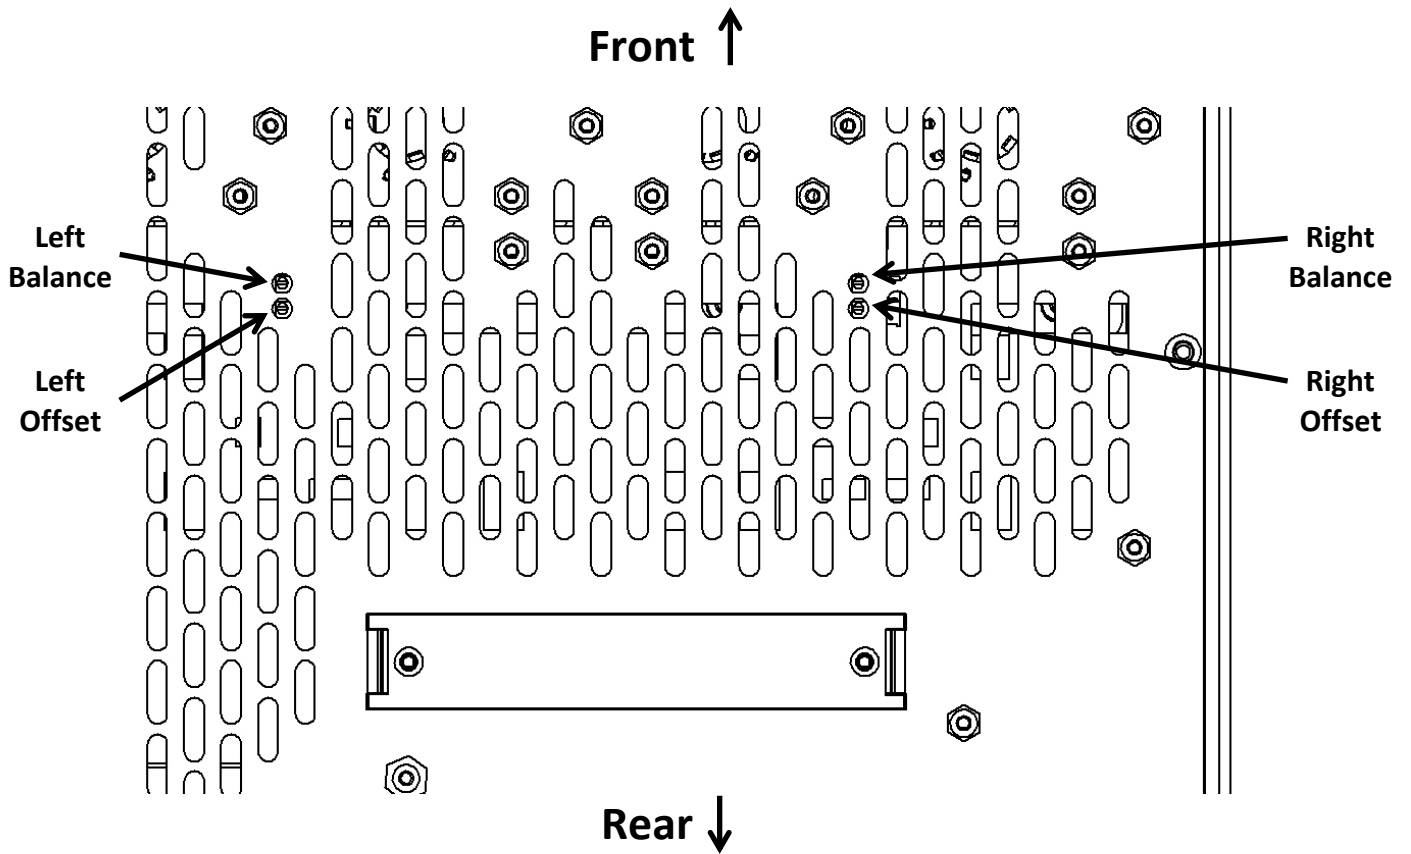

Figure 1 – Trimpots looking at bottom.
- 2) A small flat head screwdriver that will fit onto the heads of the biasing screws accessible through the bottom of the amplifier (see Fig. 1).